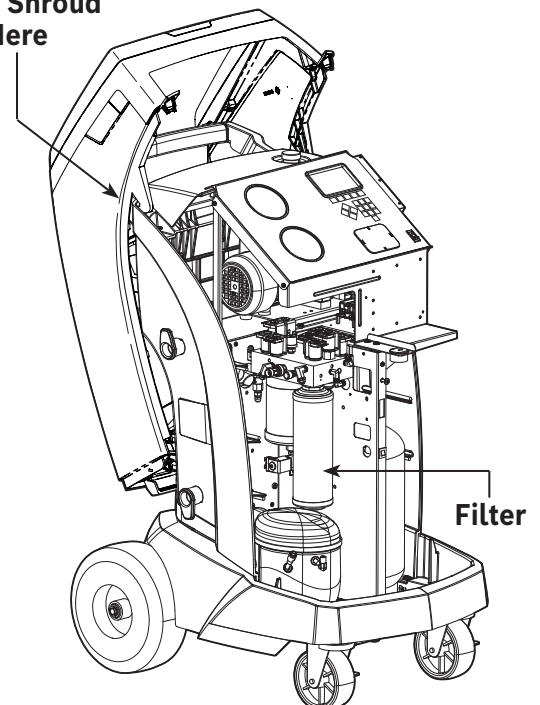

Figure 11
3. Hang the shroud on the back of the machine as shown in Figure 11.
6. Install the new filter by threading it clockwise into place. Verify the filter is positioned correctly as shown in Figure 11. Tighten the filter to 20 Nm.